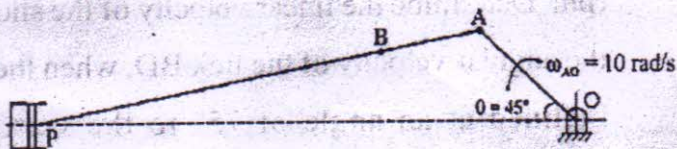

Fig.1
- 3. A single slider crank chain mechanism shown in fig. 1 having crank $OA=20$ cm, connecting rod $AP=70$ cm and angular velocity of crank is 10 radian per second. Find the velocity of piston P, angular velocity of link PA and the velocity of Point B at a distance of 20 cm from A on link AP when $\theta=45^\circ$.